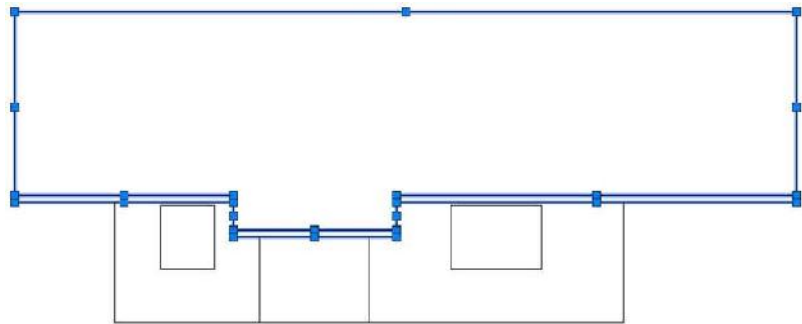

FIGURE 10.16: Assigning the A-ELEV-ROOF layer to the roof objects within the elevation view
2. Select the lines shown in Figure 10.16, and use the layer drop-down list on the Layers panel of the Home tab to assign the A-ELEV-ROOF layer.